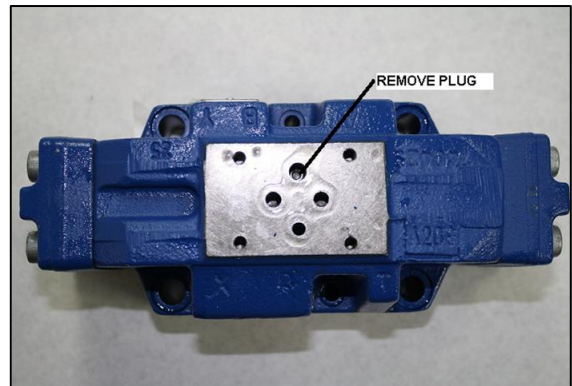

FIGURE 1
3. Locate the port on the main body shown in **Figure 1**; you will be able to see the plug located inside the port.